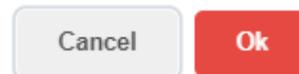

Figure 4-16
- 2) Click "🗑️" in group list, it will pop-up screen as shown in Figure 4-16;